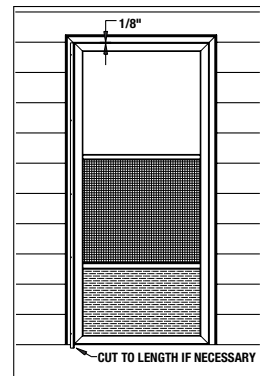

FIGURE 7
2. If hinged z-bar is too long, cut off bottom to correct length. **See Figure 7.**